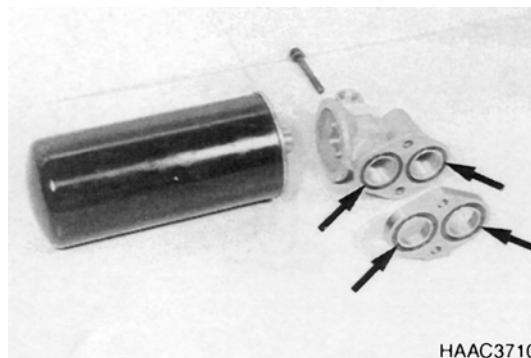

Figure 278
1. Figure 278, shows the components of the filter unit.
NOTE: *Install new O-rings (Figure 278).*